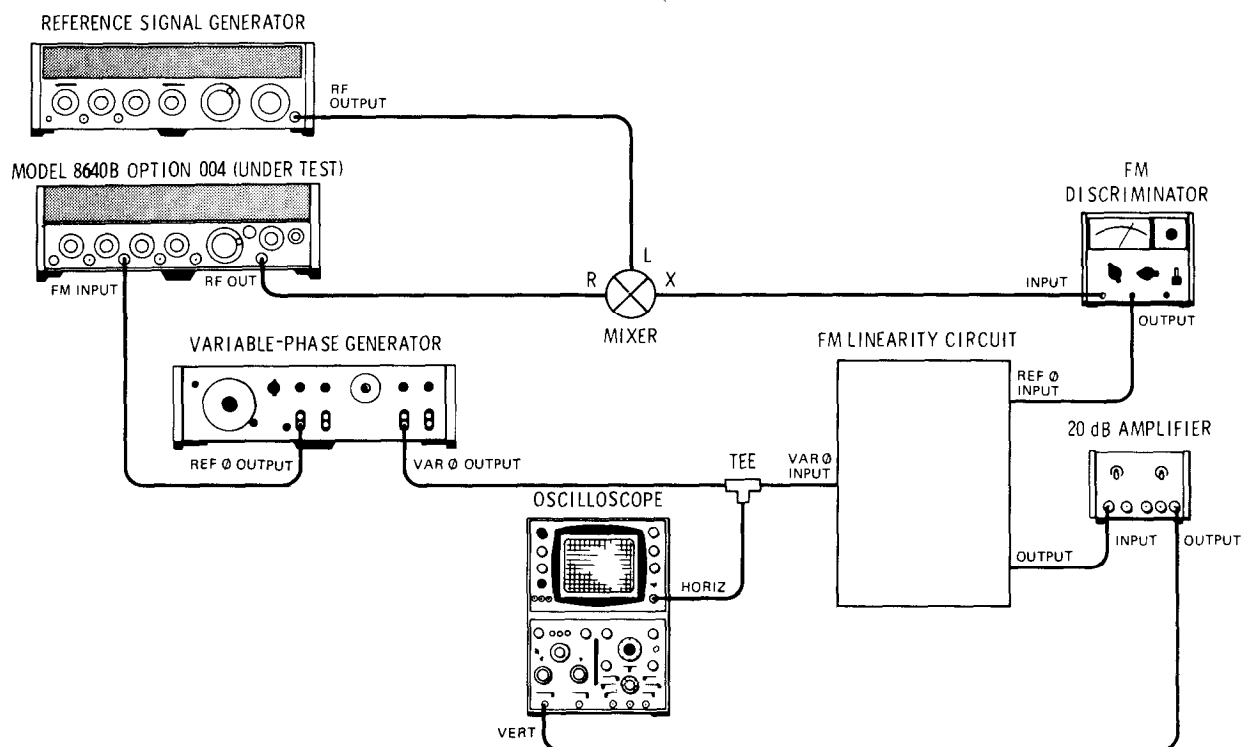

Figure 5-11. FM Linearity Adjustment Test Setup
1. Connect equipment as shown in Figure 5-11 after setting Signal Generator's controls as follows: